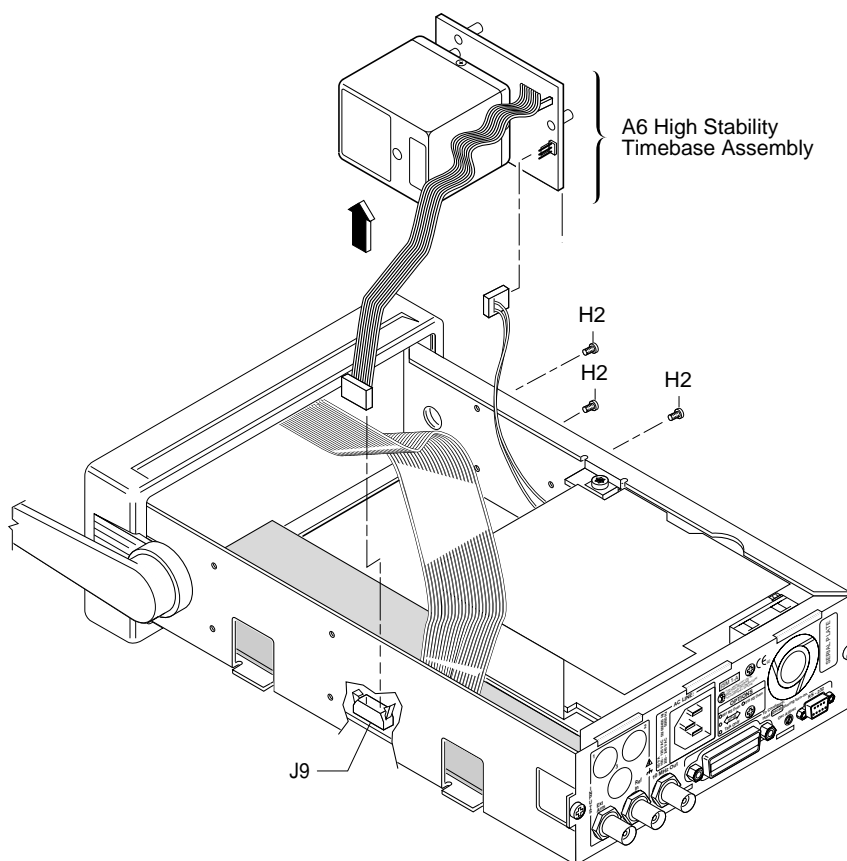

Figure 3-12. Option 001, 010, and 012 A6 High Stability Timebase Assembly Removal
2 Disconnect A6 High Stability Timebase Assembly cable from the J9 connector on A1 Motherboard Assembly as shown in Figure 3-12.
- 4 Remove the three TORX 10 screws (H2) attaching the timebase to the chassis as shown in Figure 3-12.**